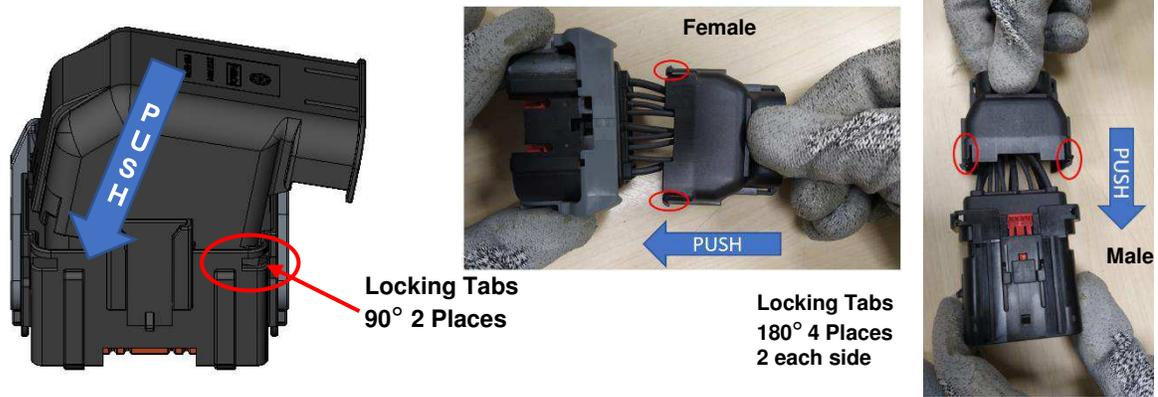

Figure 30
2. 90°: Align and insert the locking tabs of the wire dress cover into the windows of the outer connector housing. See Figure 30.
3. 180°: Orient and align the wire cover locking tabs with connector and then push straight, on surfaces shown below, until locked. See Figure 30.